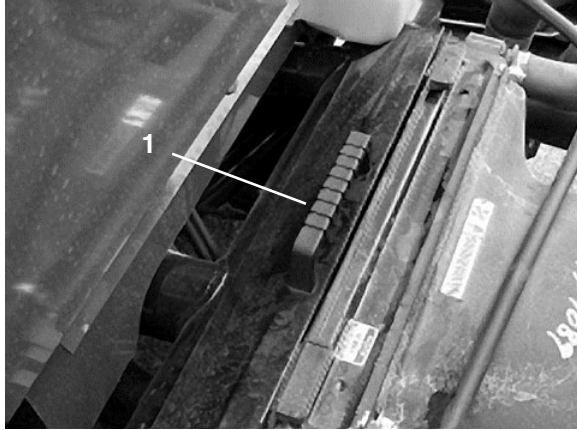

Figure 43
Removing Debris from Engine Cooling System (Fig. 43)
6. Open bleed screw on top of water pump (Fig. 43).